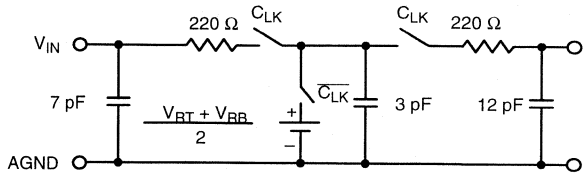

Figure 2. Input Equivalent Circuit
- 5 See V_{IN} input equivalent circuit (Figure 2). Switched capacitor analog input requires driver with low output resistance.
The ideal ADC is a linear building block that has infinite bandwidth and no phase distortion. A real ADC, however, exhibits finite bandwidth and non-constant group delay characteristics as well as non-linear behavior due to the non-zero INL characteristic. When modeling the ADC as a linear element and a quantizer, the circuit shown in Figure 2. can be used in order to represent the ADC's bandwidth.
1. Driving the analog input – The input impedance can be represented as a switched capacitor type input circuit, i.e. the input impedance changes with the phase of the input clock. Figure 2. shows an equivalent input circuit. In many applications, the input impedance can be treated as capacitive. For fast signals and a high driving impedance, a wide bandwidth op amp is recommended.